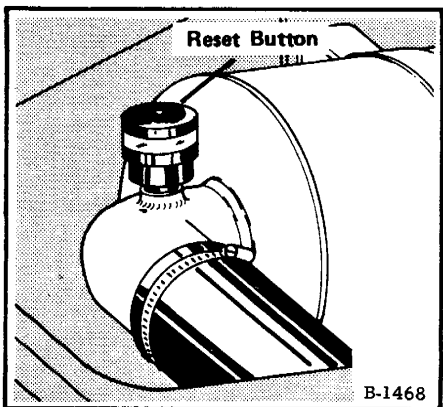

Fig. 33 Condition Indicator
3. Press down on button located on top of condition indicator to retract red ring from sight window (Figure 33).